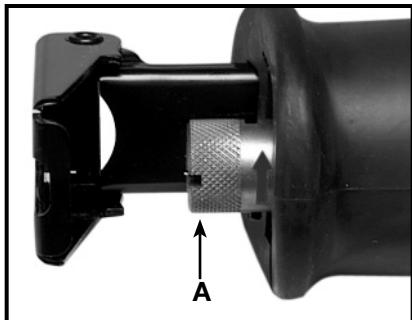

Fig. 1
1. The reciprocating shaft must be fully extended to permit access to the *Quik-Change*TM blade release collar (A) Fig. 1. If necessary, gently squeeze the trigger switch to move the reciprocating shaft to its outermost position (as shown in Fig. 1).